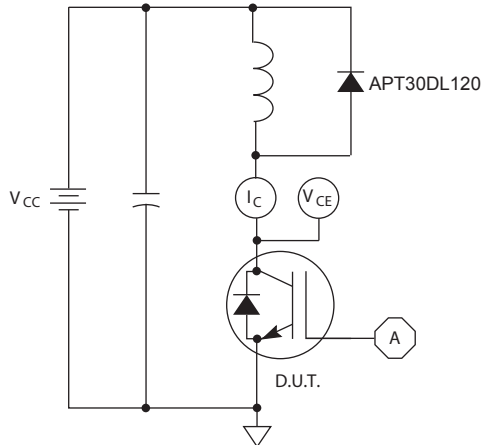

Figure 21, Inductive Switching Test Circuit
① Repetitive Rating: Pulse width limited by maximum junction temperature.
② For Combi devices, I_{ces} includes both IGBT and FRED leakages
③ See MIL-STD-750 Method 3471.
④ E_{on1} is the clamped inductive turn-on energy of the IGBT only, without the effect of a commutating diode reverse recovery current adding to the IGBT turn-on loss. Tested in inductive switching test circuit shown in figure 21, but with a Silicon Carbide diode.
⑤ E_{on2} is the clamped inductive turn-on energy that includes a commutating diode reverse recovery current in the IGBT turn-on switching loss. (See Figures 21, 22.)
⑥ E_{off} is the clamped inductive turn-off energy measured in accordance with JEDEC standard JESD24-1. (See Figures 21, 23.)
⑦ R_G is external gate resistance, not including $R_{G(int)}$ nor gate driver impedance.
⑧ Continuous current limited by package lead temperature.